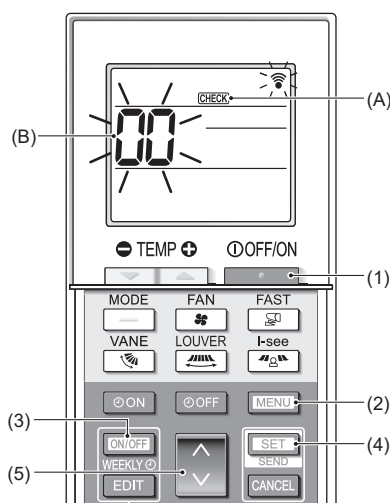

Fig. 7-6
7.3.2. Wireless remote controller (Fig. 7-6)
- Press the [OFF/ON] button (1) to stop the air conditioner.
- If the weekly timer is enabled (WEEKLY is on), press the [ON/OFF WEEKLY] button (3) to disable it (WEEKLY is off).
- Press the [MENU] button (2) for 5 seconds.
- CHECK (A) comes on and the unit enters the self-check mode.
- Press the [UP] button (5) to select the refrigerant address (M-NET address) (B) of the indoor unit for which you want to perform the self-check.
- Press the [SET] button (4).
- Press the [OFF/ON] button (1).
- CHECK (A) and the refrigerant address (M-NET address) (B) go off and the self-check is completed.